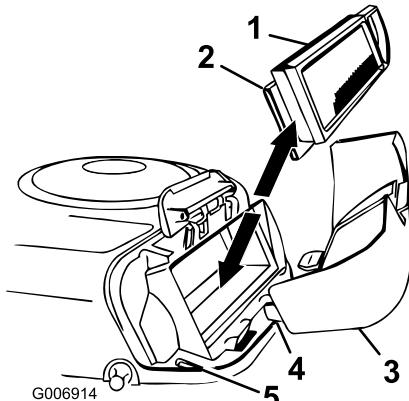

Figure 22
- Carefully slide the paper element and the foam element from the blower housing (Figure 22).
- Align the tabs on the air cleaner cover with the slots of the blower housing (Figure 22).